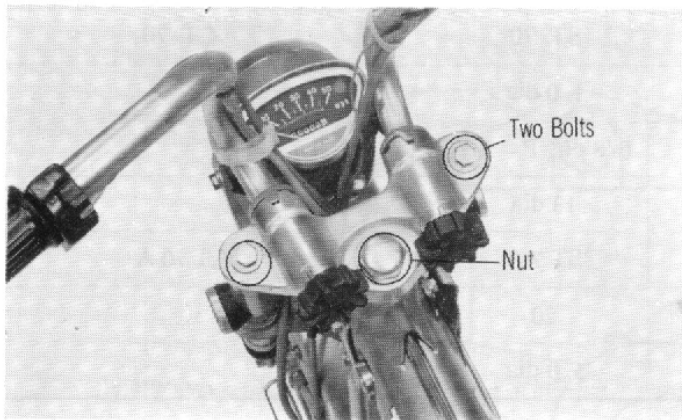

Fig. 57
The steering handle unit is made of steel pipe which is formed as a raised type. For easy handling and transportation, the steering handle is equipped with a fold down device and, further, it is so designed that the steering handle can be disassembled from the frame by removing two bolts, and a nut (**Fig. 57**).
- (1) After releasing two handle holder knobs, remove two stopper nuts from the fork top bridge using the special tool. (07072-09801)
- (2) Remove two bolts and 29 mm nut steering nut (**Fig. 57**)
- (6) Then the steering handle can be removed from the frame together with the steering bracket. (**Fig. 57**)